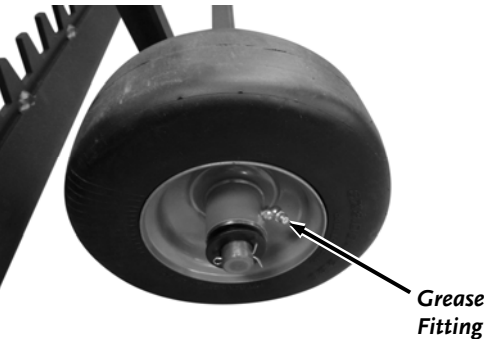

Figure 44
1. Clean the Grease Fitting with a clean Rag (**Figure 44**).